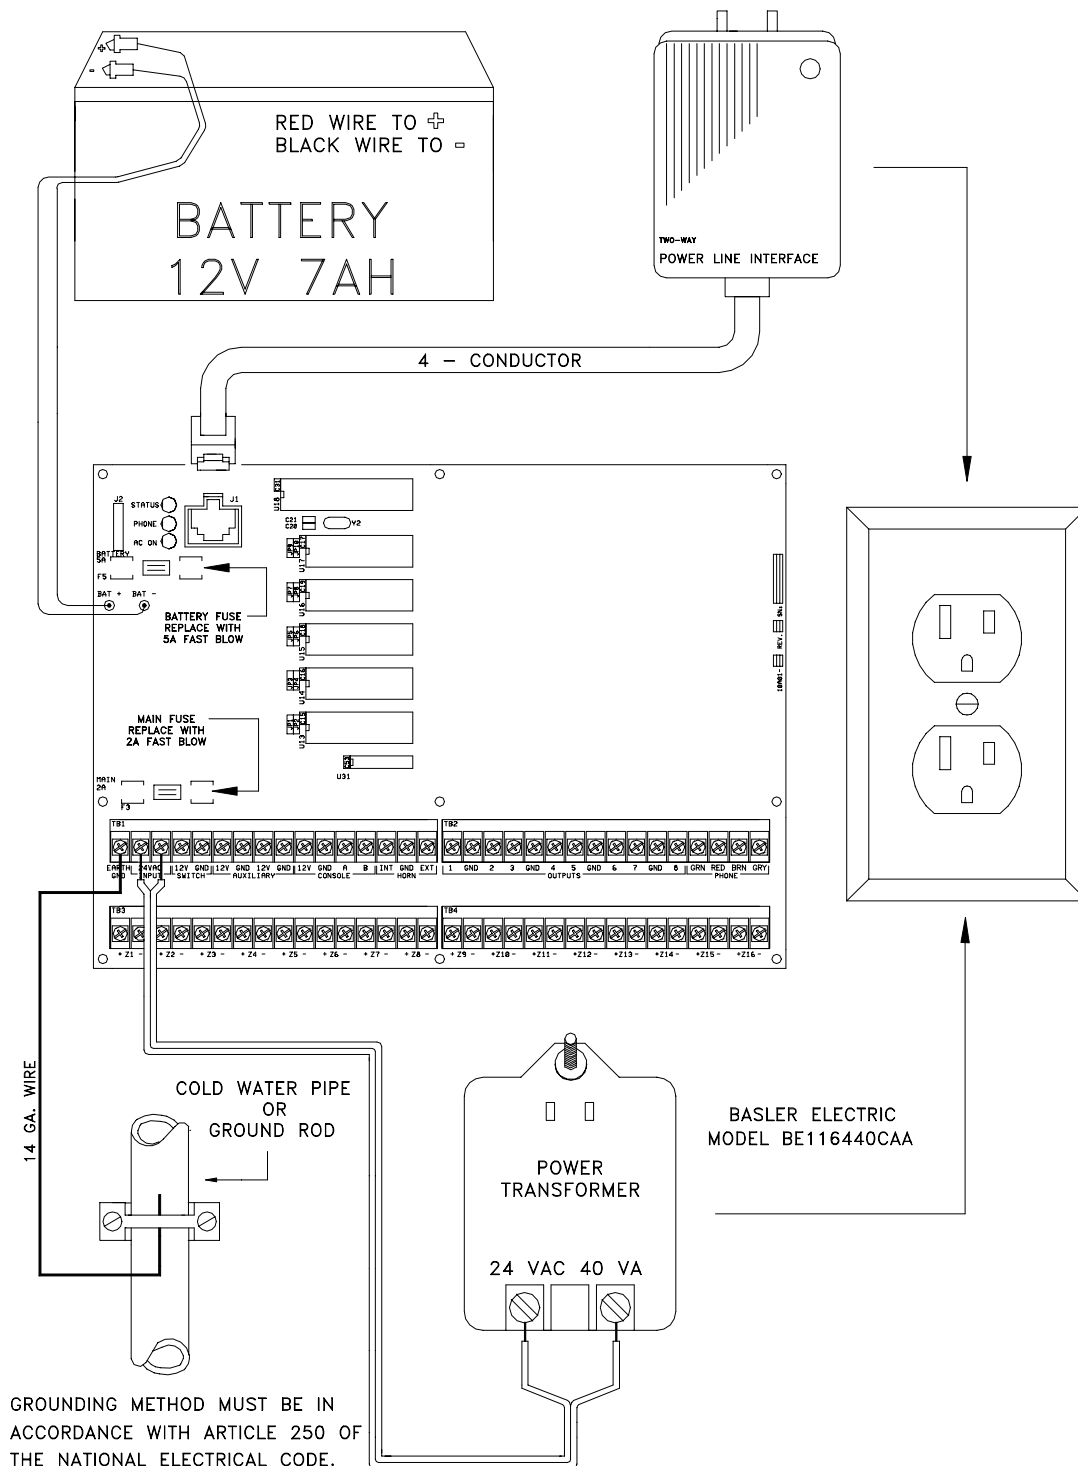

Figure 1 - Controller Hookup
6. Refer to **FIGURE 1 (CONTROLLER HOOKUP)** for this configuration.